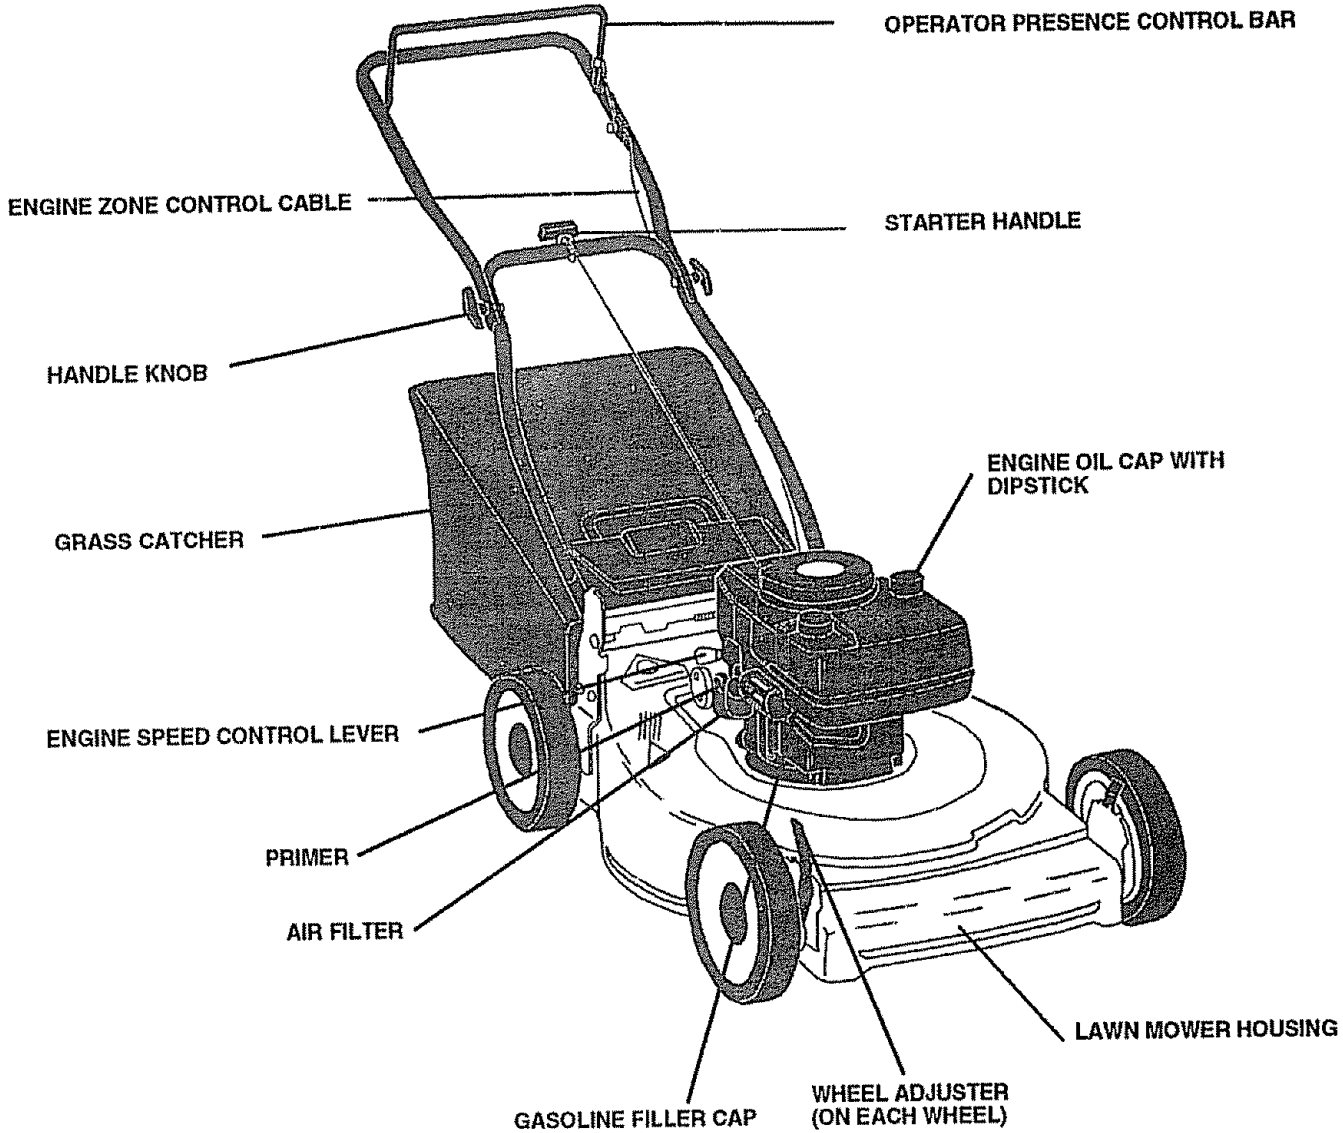

FIG. 3
- Fill gasoline tank with fresh, clean unleaded gasoline. DO NOT USE PREMIUM GASOLINE. BE CAREFUL NOT TO OVERFILL TANK (See Fig. 3).